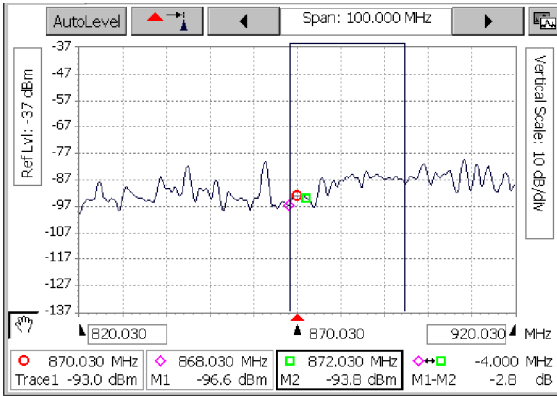
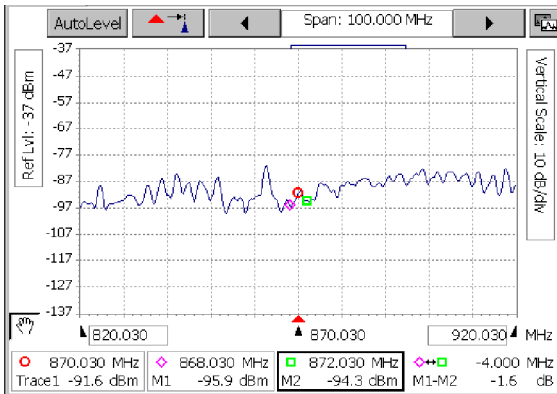

Figure 3-14: Band Edge Cursor displayed
Figure 3-15: Band Edge Cursor turned off; top part visible
The Band Edge cursors identify the start and stop frequencies for the transmit or receive bands of the selected standard. See Figure 3-14. (Transmit or receive band is selected using the Uplink and Downlink buttons.) There are two parts to the cursors, the main part appears in the main trace display and the second part appears along the top edge of the graph. The portion in the main display can be switched off, but the part along the top edge of the graph is always visible. See Figure 3-15.
- Select **View > Band Edge Cursor** so that it is checked. See Figure 3-14 on page 3-23.
- Select **View > Band Edge Cursor** so that it is *not* checked. See Figure 3-15 on page 3-23.